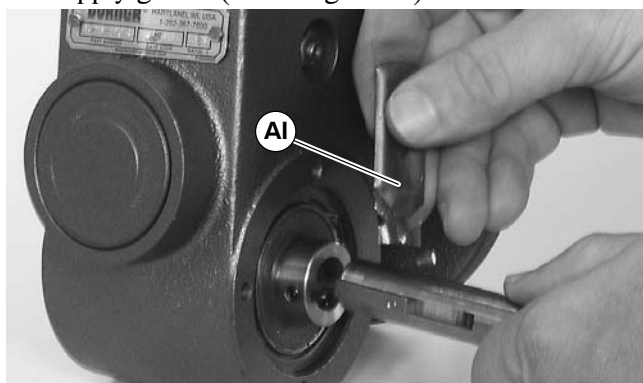

Figure 23
- Apply grease (AI of Figure 23) to shaft.